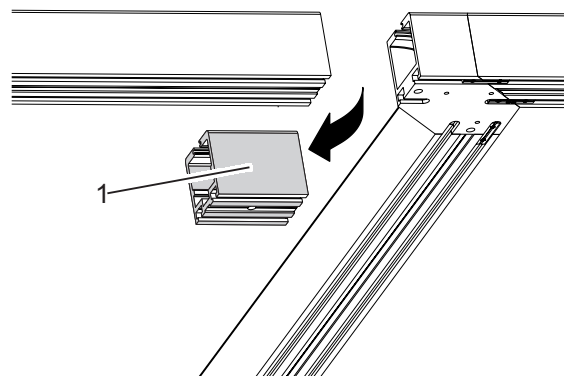

Fig. 13: Removing the revision piece
1. Remove the revision piece (Fig. 13/1).